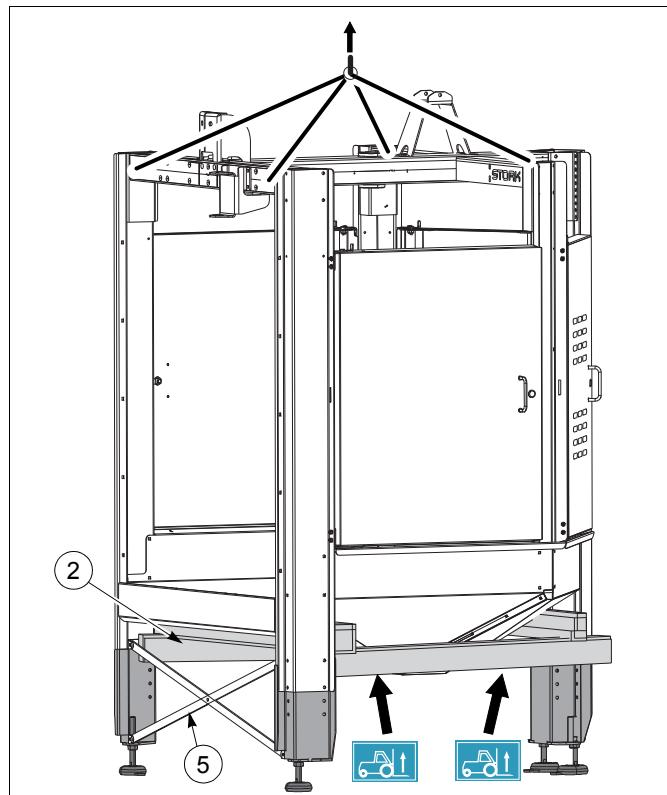

fig. 14 Transport frame
4. Lift the machine with a hoist or a forklift truck until the overhead conveyor is in line with the other track sections. Use transport frame **2** if you use a forklift truck. See fig. 14.